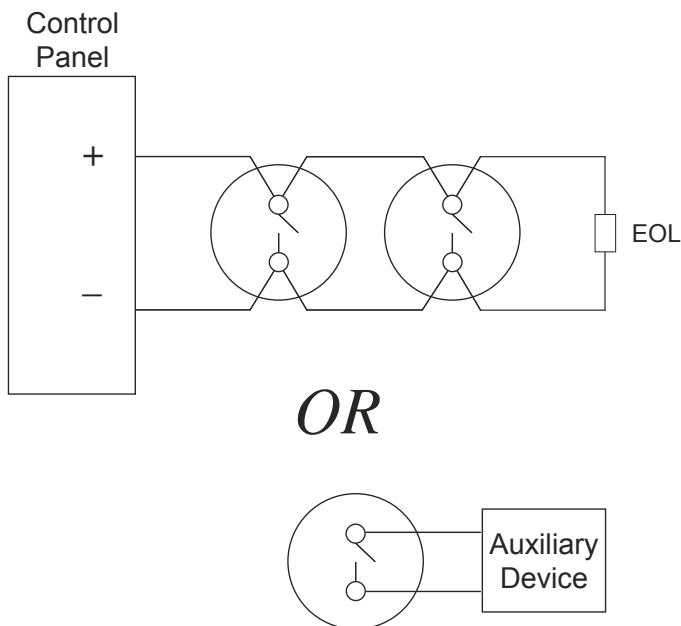
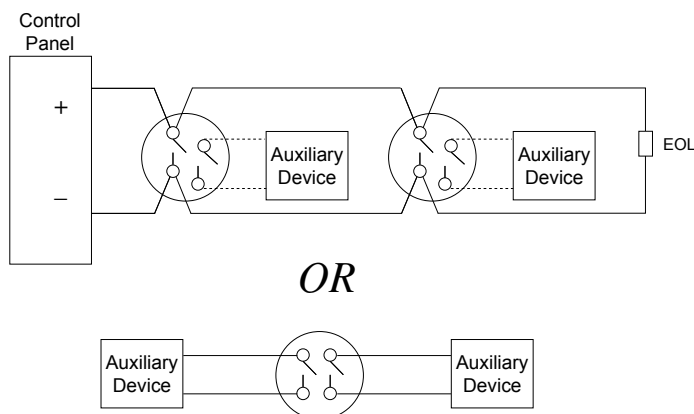

Figure 3. Wiring Diagram – Single Circuit Models
Figure 4. Wiring Diagram – Dual Circuit Models
4. Connect the wires to the detector per Figure 3 or Figure 4, as applicable.